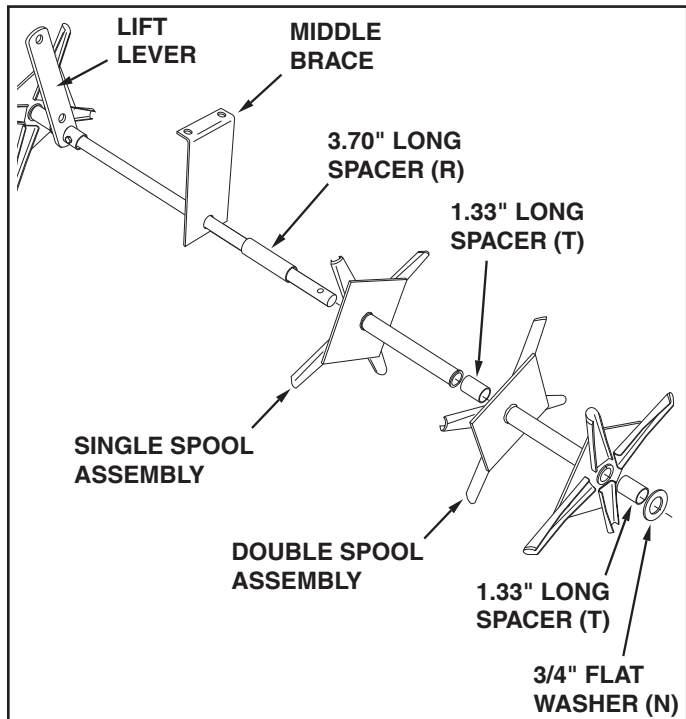

FIGURE 4
5. Assemble the middle brace onto the **long end** of the shaft with the bent end of the brace facing the lift lever. Next assemble a 3.70" long spacer (R), a single spool assembly, a 1.33" long spacer (T), a double spool assembly, a 1.33" long spacer (T) and a 3/4" flat washer (N) onto the **long end** of the shaft. See figure 4.